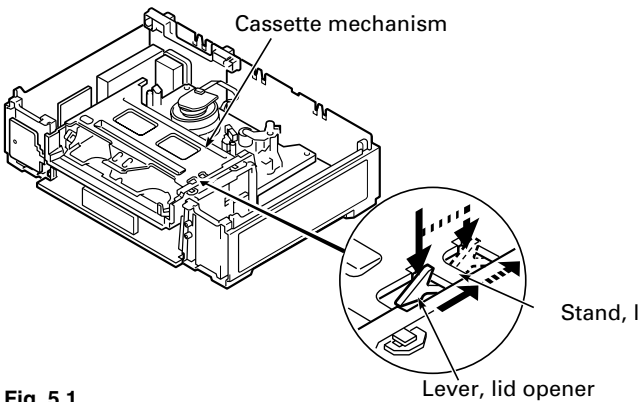
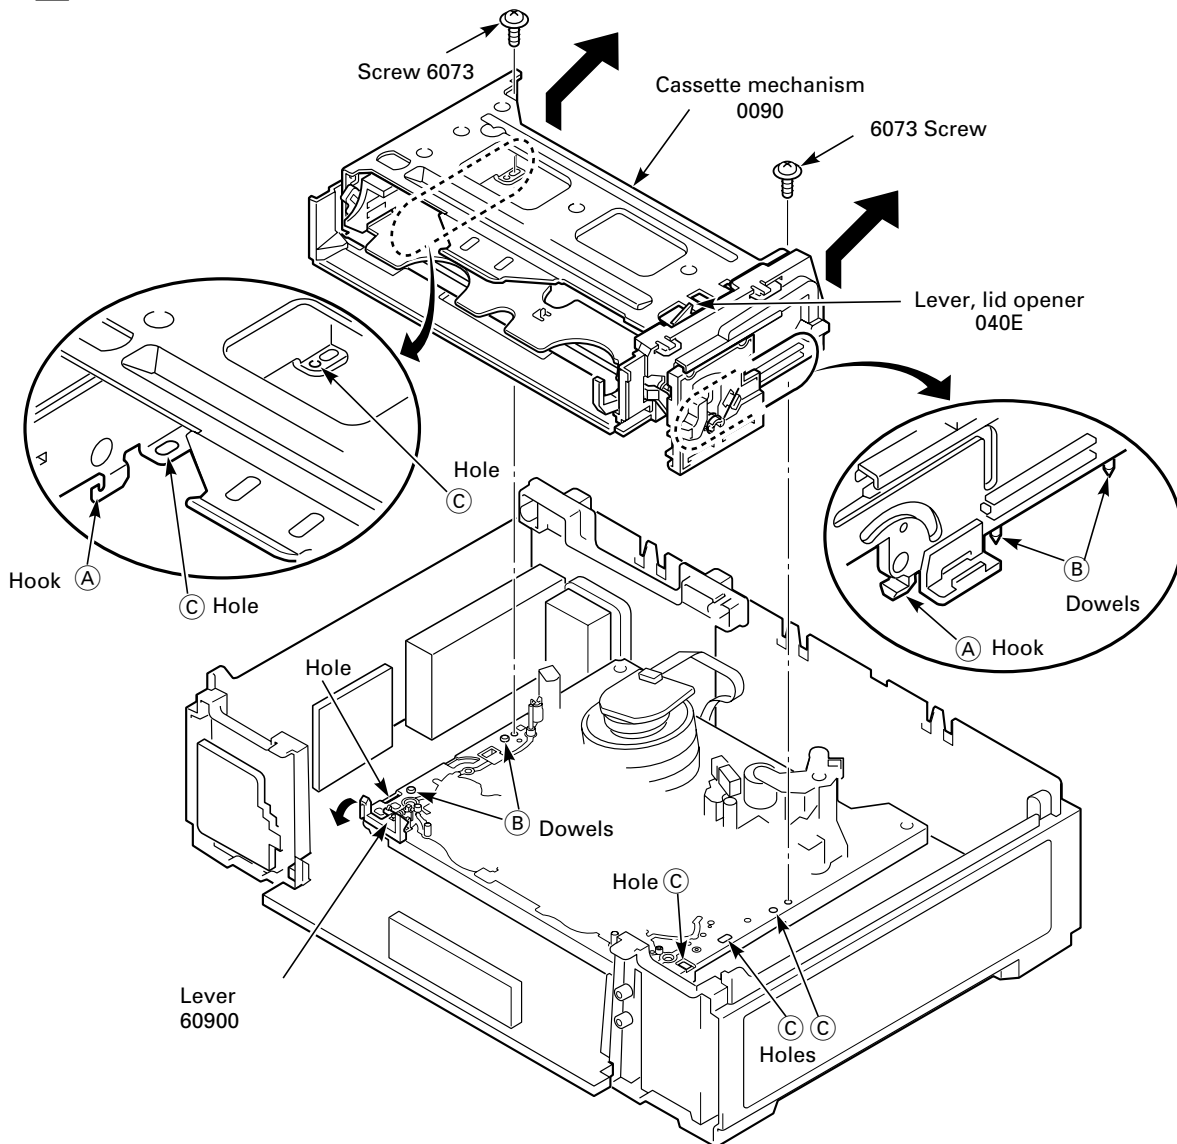

Fig. 5.1
Fig. 8.3
**Note:** When checking the mechanism mode positions without a cassette being loaded take care that the opening lever for the cassette lid (Pos. 040E) is unlocked (Fig. 5.1).
- Undo 2 screws (Pos. 6073, Fig. 8.3).
**Note:** When reassembling the cassette mechanism (Pos. 0090) the lever (Pos. 60900) must be pressed towards the front. The cassette mechanism (Pos. 0090) is positioned correctly when the two hooks (A) and the dowels (B) engage with the holes (C) (Fig. 8.3).
- Press the lid opening lever (Pos. 040E, Fig. 8.3) to release the lock and lower the tray (Pos. 040A, Fig. 5.1).